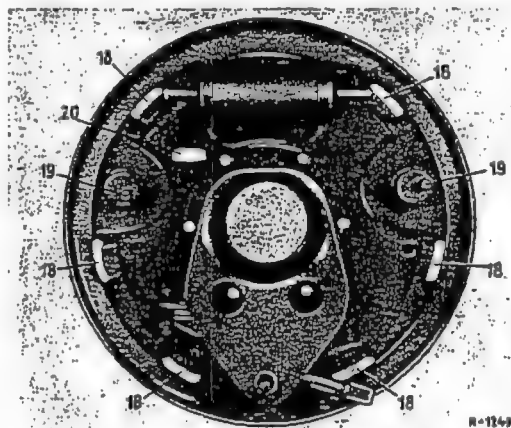

Fig. 42-9/11
14. Turn the two eccentrics (19) until the brake shoes (1) are in their extreme inward position. In doing this make sure that the pressure pins of the wheel cylinder (11) engage the brake shoes properly (see Fig. 42-9/5).
15. Install retaining pins (9) into the brake anchor plate, place the flat shaped spring (10) on the retaining pin, compress it and turn the retaining pin by 90° (Fig. 42-9/12).